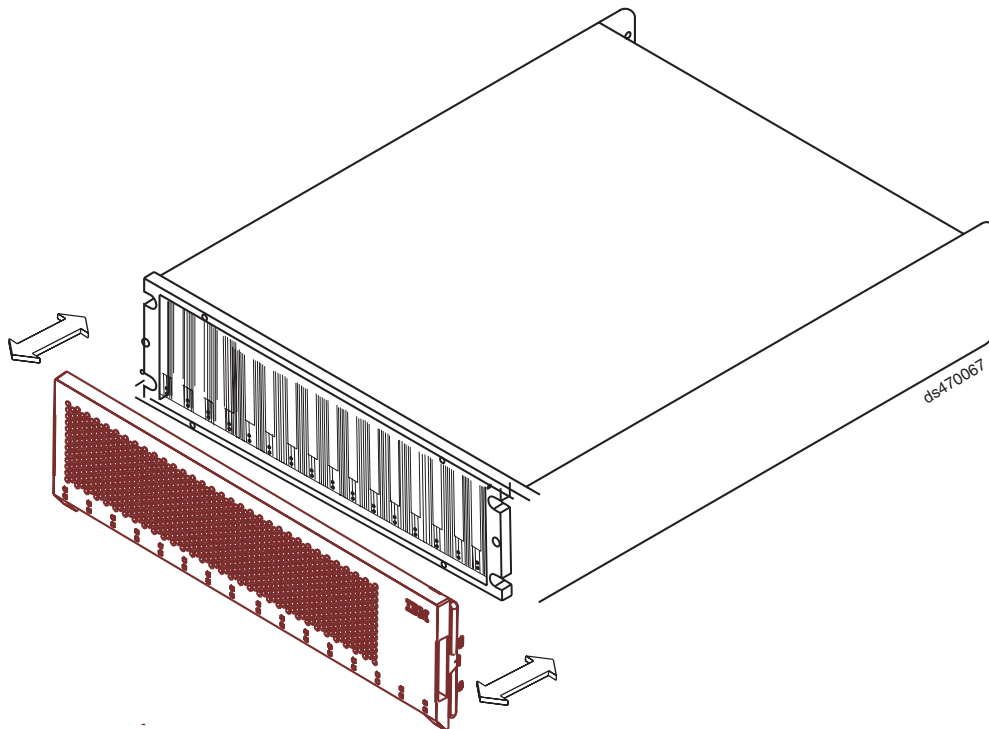

Figure 108. Removing and replacing a bezel
1. Grasp the sides of the bezel and pull it slowly toward you to remove it, as shown in Figure 108.
2. To replace the bezel, grasp the sides of the bezel and snap it onto the DS4700 Express chassis, as shown in Figure 108.
1. Remove the bezel by grasping the sides of the bezel and pulling it slowly toward you, as shown in Figure 108 on page 148.
7. Grasp the sides of the bezel and snap it onto the DS4700 Express chassis, as shown in Figure 108 on page 148.